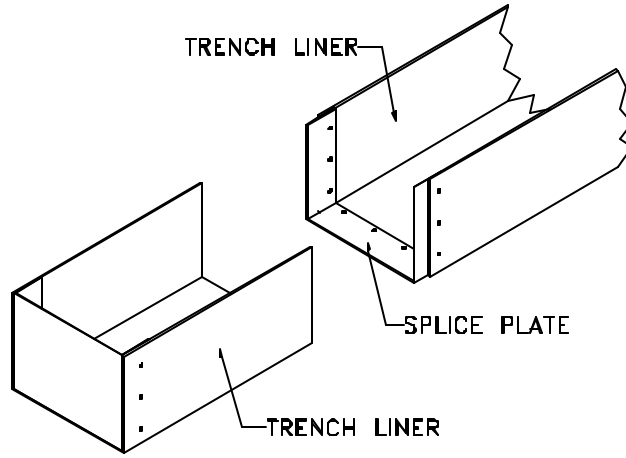

Figure 17
- STEP 3.** Place a mating section of the liner into its assembled position relative to the liner section already put into place (see Figure 17).